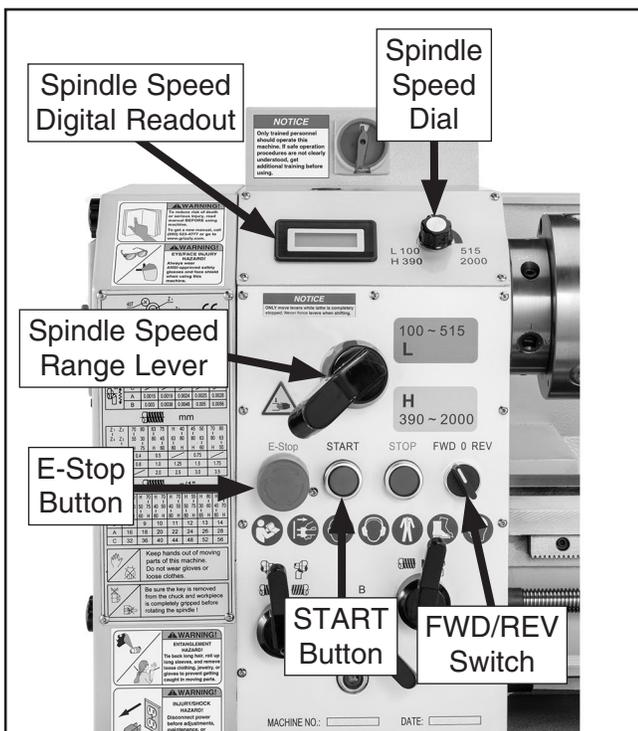

Figure 23. Spindle speed and rotation controls.
10. Move spindle speed range lever to Low (L) position (see **Figure 23**).
11. Move FWD/REV switch to FWD position (see **Figure 23**).
12. Rotate spindle speed dial until spindle speed digital readout shows 150 RPM (see **Figure 23**).
13. Push START button (see **Figure 23**). Chuck should turn counterclockwise and down toward the front of the lathe.